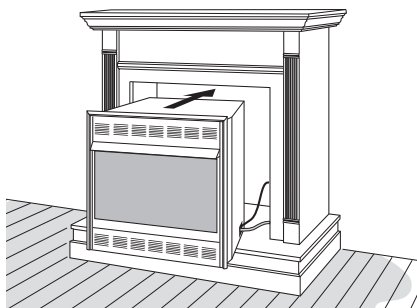

Figure 23 - Inserting Fireplace Into Cabinet Mantel
12. Carefully insert fireplace into cabinet mantel (see Figure 23, page 17). Be careful not to scratch or damage hearth base or cabinet mantel.